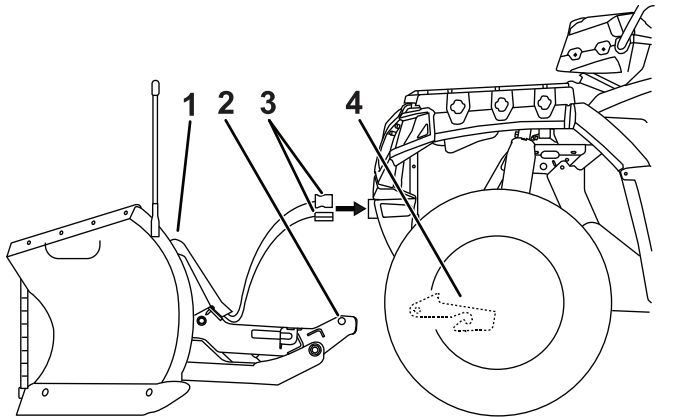

Figure 13
2. Line up the vehicle with the snowplow and drive forward until the lower pin contacts the pin receiver (Figure 13).
5. Remove the electrical-plug dust-covers and connect the plow wire harness to the vehicle wire harness (Figure 13).